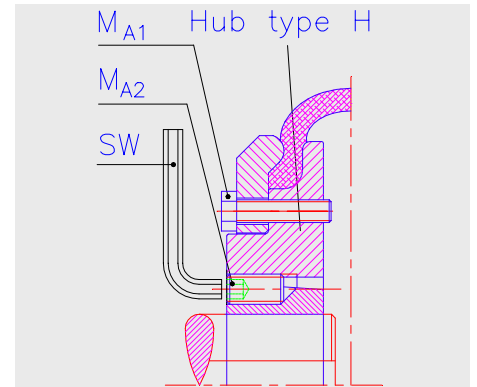

Fig. 4
3. Fit the remaining clamp rings, if any, and tighten the screws hand-tight. Thereafter, tighten them uniformly in an alternating sequence (half a turn each) until the specified tightening torque M_{A1} (Table 1 and Fig. 4 on page 11) is reached.